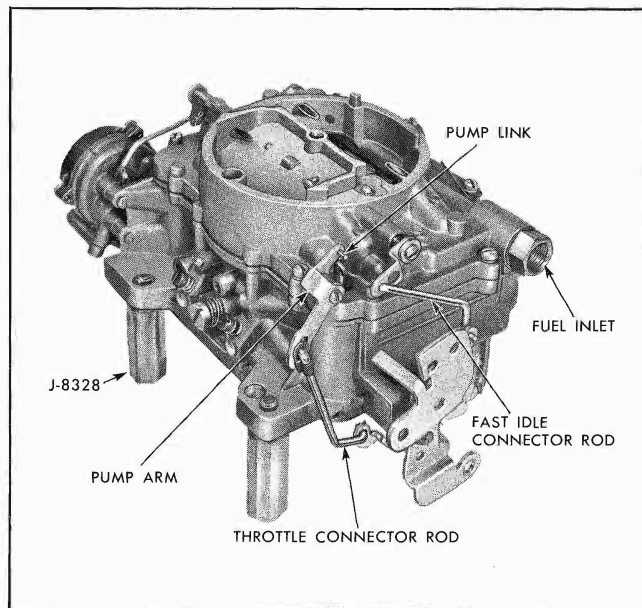

Fig. 6B-73 Carter AFB Carburetor
1. Place carburetor on stand J-5923 or J-8328 and remove gasoline inlet strainer nut, gasket and inlet screen (Fig. 6B-73).
2. Remove throttle connector rod and anti-rattle spring (Fig. 6B-73).